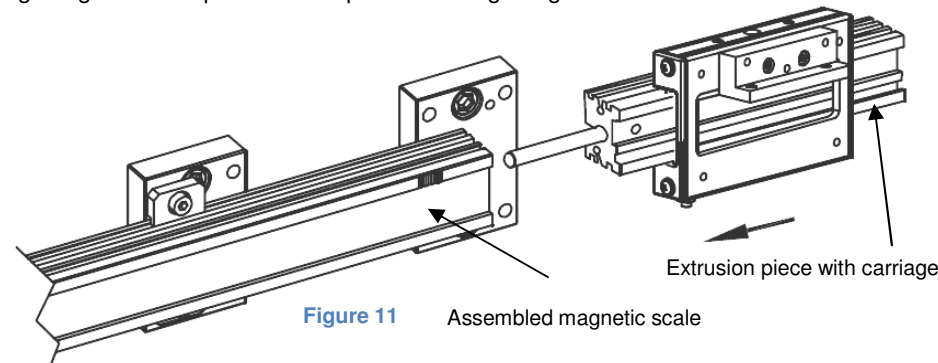

Figure 11 Assembled magnetic scale
- From the open end insert the provided extrusion piece with the mounted carriage assembly. Figure 11.